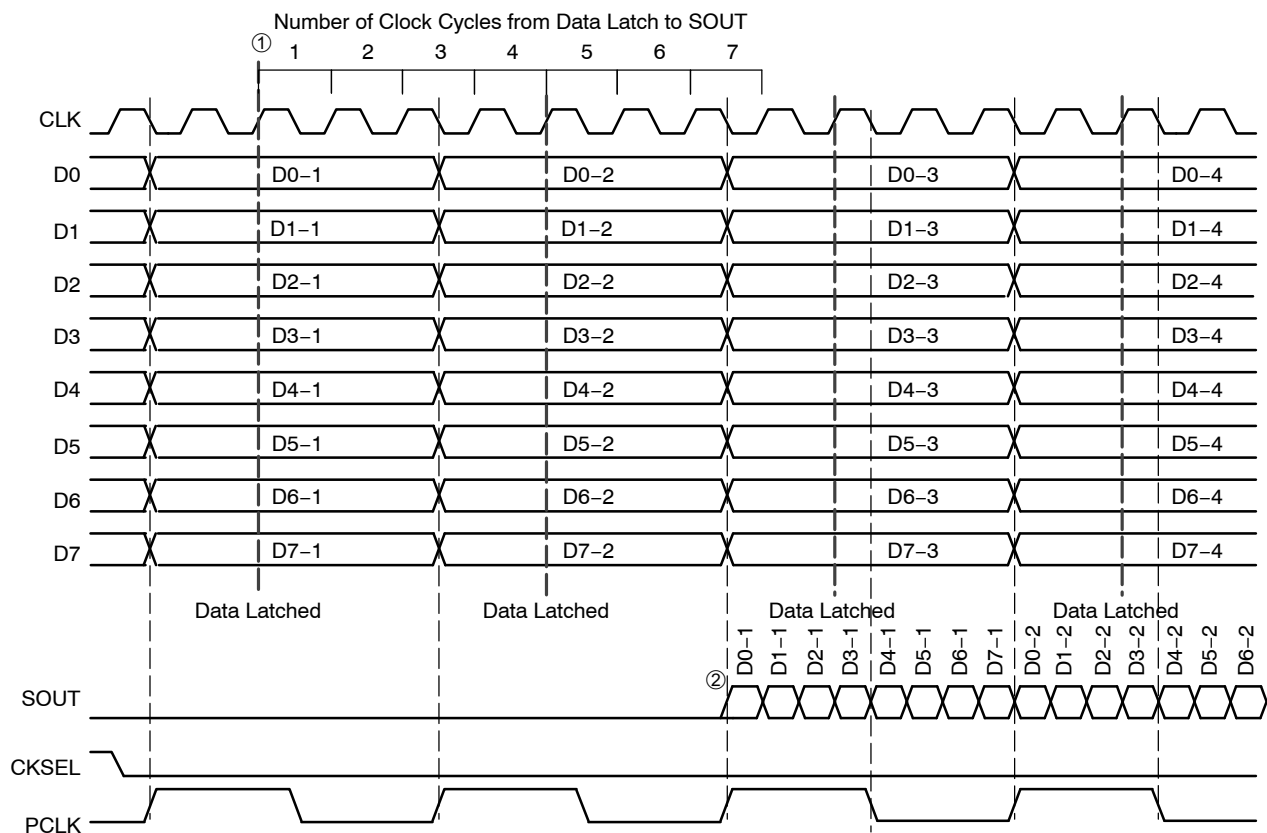

Figure 7. Timing Diagram 1:8 Parallel to Serial Conversion with CKSEL LOW
The CKSEL input (Pin 2) is provided to enable the user to select the serial data rate output between internal clock data rate or twice the internal clock data rate. For CKSEL LOW operation, the time from when the parallel data is latched ① to when the data is seen on the SOUT ② is on the falling edge of the 7th clock cycle plus internal propagation delay (Figure 7). Note the PCLK switches on the falling edge of CLK.